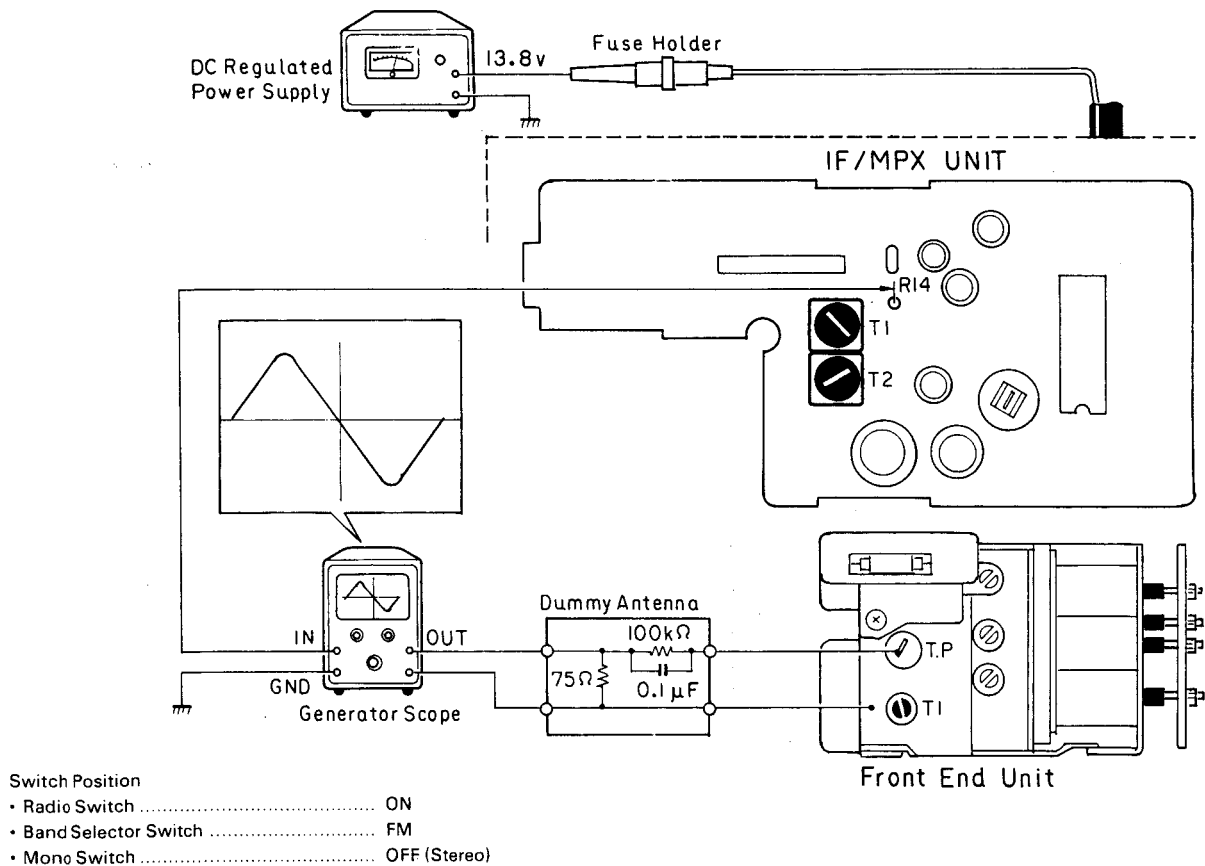

Fig. 7
3. A waveform shown in Fig. 7 is obtained on the generator scope when the hook-up is made as illustrated above and the power source is applied to.